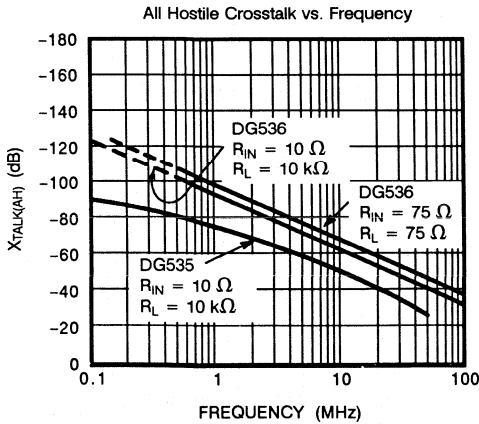

Figure 8. All Hostile Crosstalk vs. Frequency Graph and Test Circuit
2. **All hostile crosstalk** (Figure 8) is the ratio of the signal measured at the drain to the signal applied simultaneously to all 15 channels (i.e., with one channel ON).